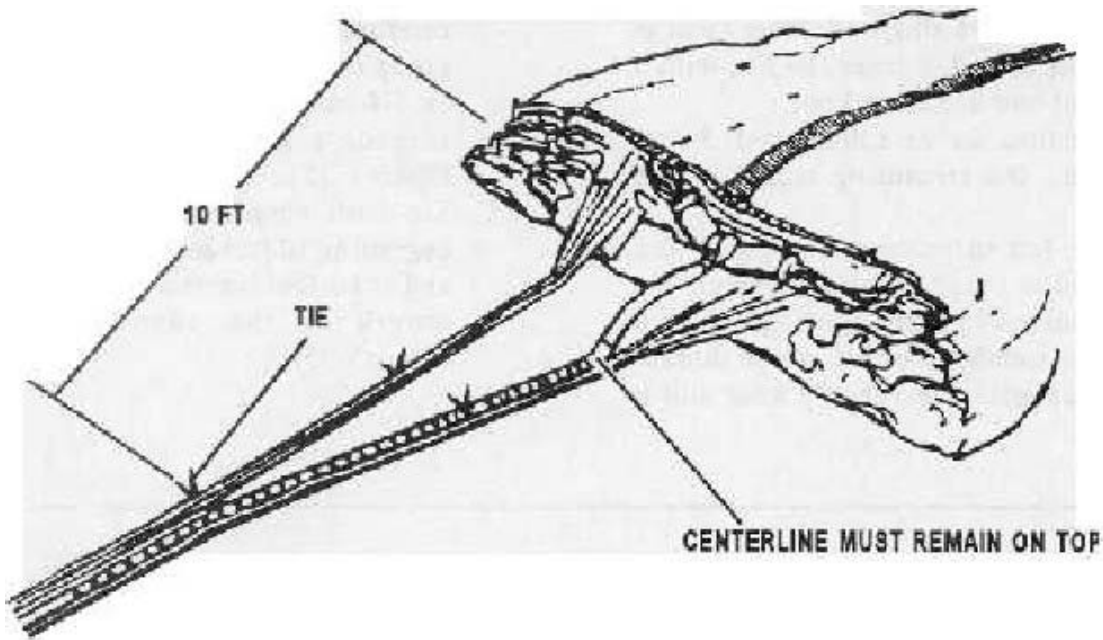

Figure 3-33
- f. Tie both suspension line groups together beginning 10 feet below the skirt reinforcement and at 10-foot intervals along the remaining length of the suspension lines. (See Figure 3-33)